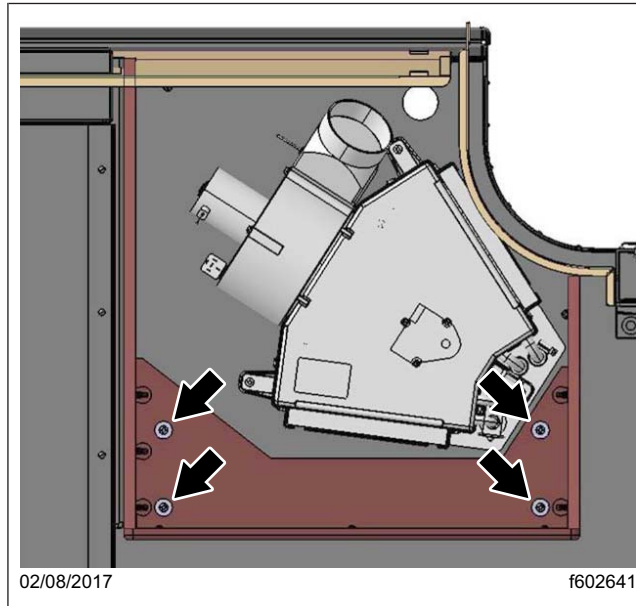

Fig. 5, LH Cabinet Floor Fasteners
- 4.7 Remove the screws and washers that attach the bottom of the cabinet to the cab floor. See Fig. 5.
- 31.4 Install the screws and washers that attach the bottom of the cabinet to the cab floor. See Fig. 5.